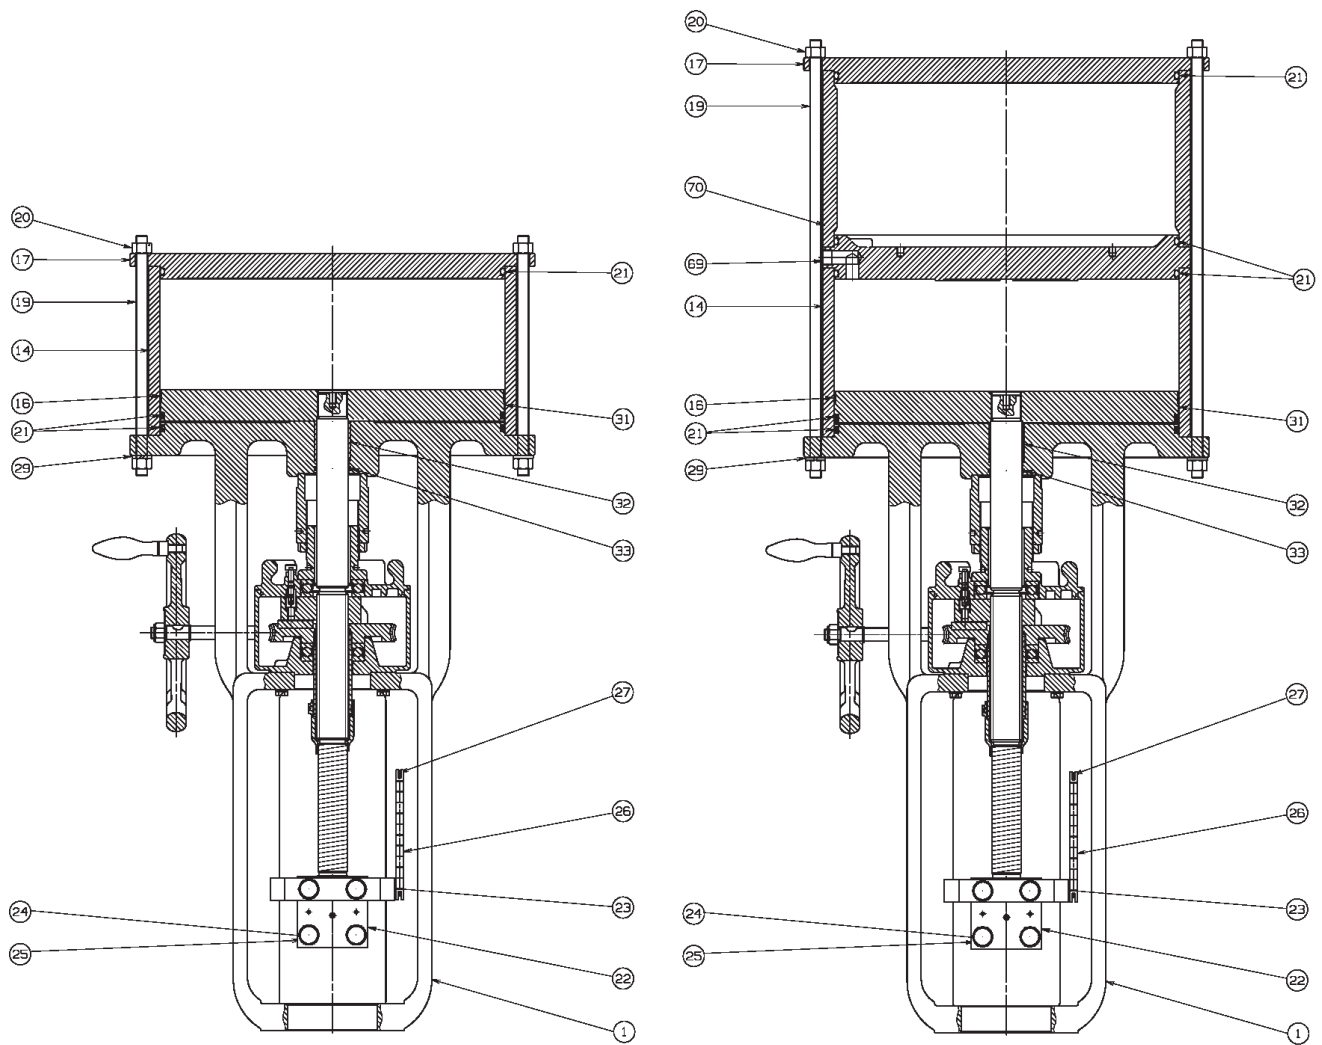
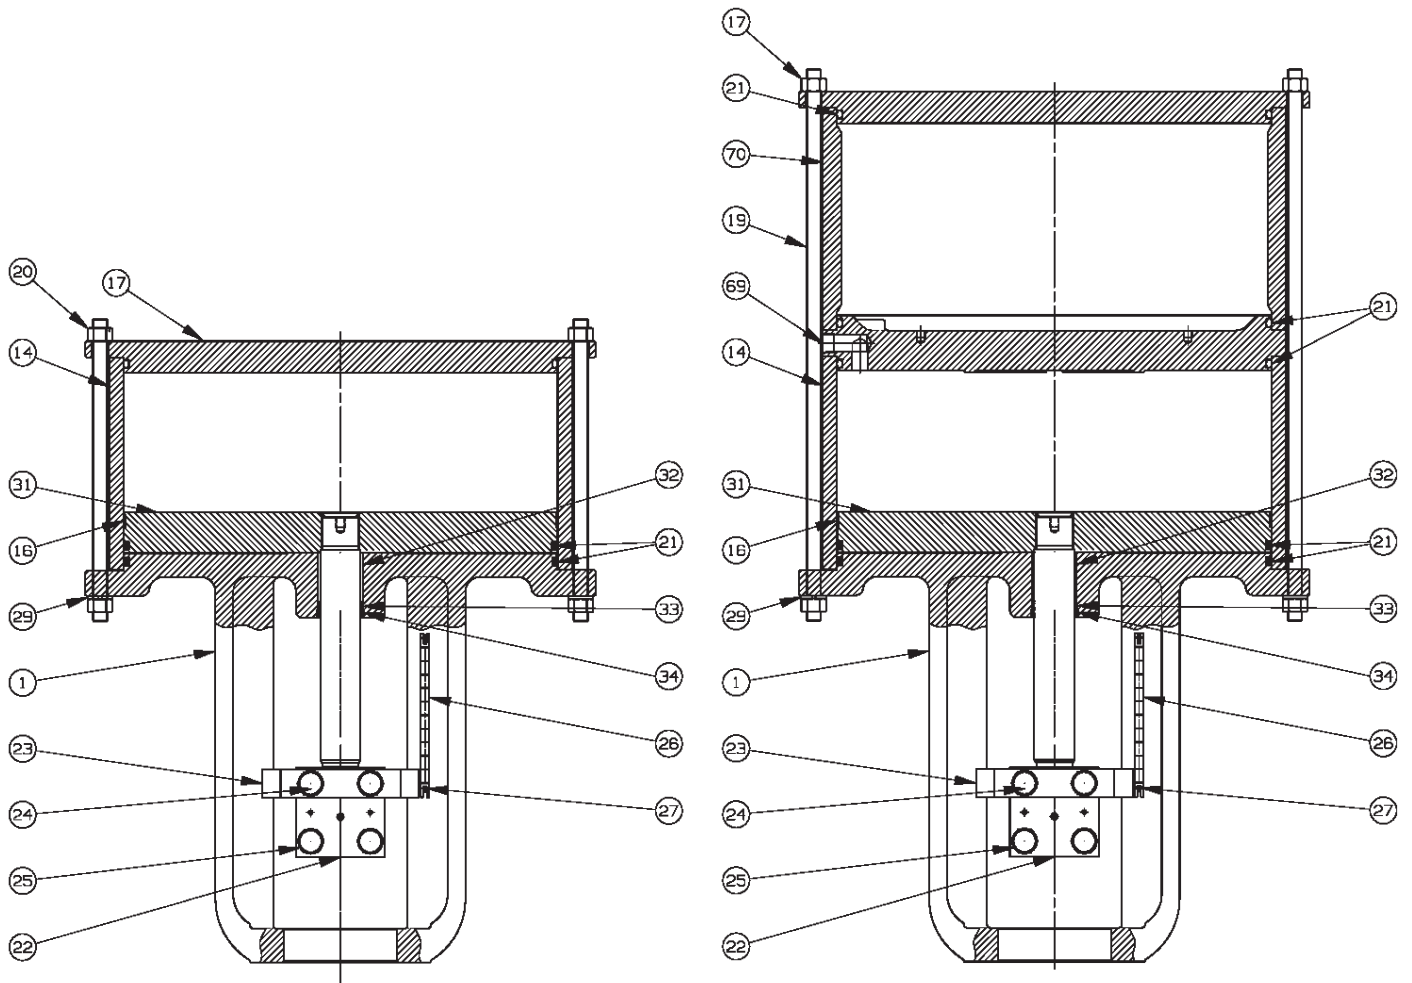

Figure 7 - Model 51 with Handwheel, With/Without Volume Chamber
Figure 8 - Model 51 Without Handwheel, With/Without Volume Chamber
2. Disconnect air piping from the top plate (17) and yoke (1), and ensure that there is no air pressure in the cylinder (Figure 7 and Figure 8).
2. Shut off air supply to the actuator, and isolate the process pressure from the valve to prevent plug movement (Figure 7 on page 19).
3. Disconnect air piping from the top plate (17), separator plate (69), and check for air pressure in the cylinder.
4. Remove the hexagon nuts (20), spring lock washers (29), and center bolts (19).
- **With volume chamber:** Remove top plate (17), volume chamber tube (70), separator plate (69), cylinder tube (14), O-rings (21), guide ring (16).
- **Without volume chamber:** Remove top plate (17), cylinder tube (14), O-rings (21), guide ring (16).
- **With double piston:** Remove top plate (17), upper cylinder nut (20) spring washer (6), upper piston plate (31), separator plate (69), lower cylinder tube (14), O-rings (21), and guide ring (16).
6. Loosen set screw (55) in adapter (54) and unscrew adapter (54) from spacer tube (5).
7. Remove piston subassembly (31).
3. Disconnect air piping from the top plate (Figure 8 on page 20).
4. Remove the hexagon nuts (20), spring lock washers (29), and center bolts (19). Disassemble the hex nuts (20).
5. Remove the top plate (17) and cylinder tube (14), carefully avoiding any horizontal misalignment.